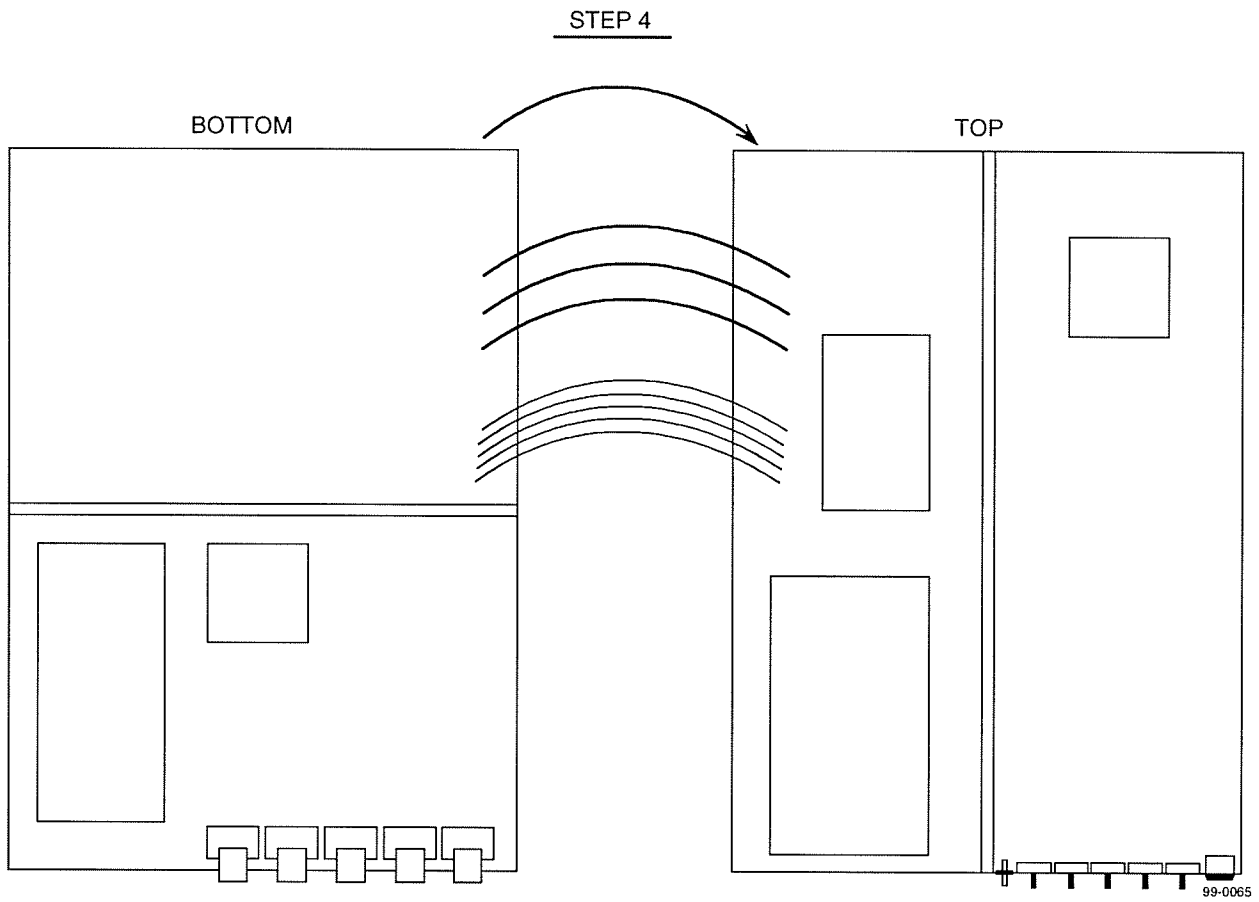

Figure D-2. Opening the Miniceptor
4. Carefully lift the top half of the unit from the bottom half and spread open clockwise, similar to opening a book (see **Figure D-2**).